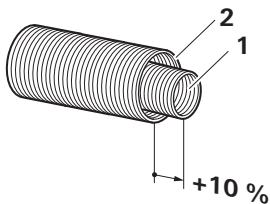

Fig. 10
An exhaust venting system consists of a combustion-air supply tube (Fig. 10 – 2) and an exhaust tube (Fig. 10 – 1).
- The exhaust tube (Fig. 10 – 1) must be 10 % longer than the combustion-air supply tube (Fig. 10 – 2).
2. Squeeze each end of the exhaust tube (Fig. 10 – 1) inward, shortening it by approx. 1 in. (2 cm) at each end.